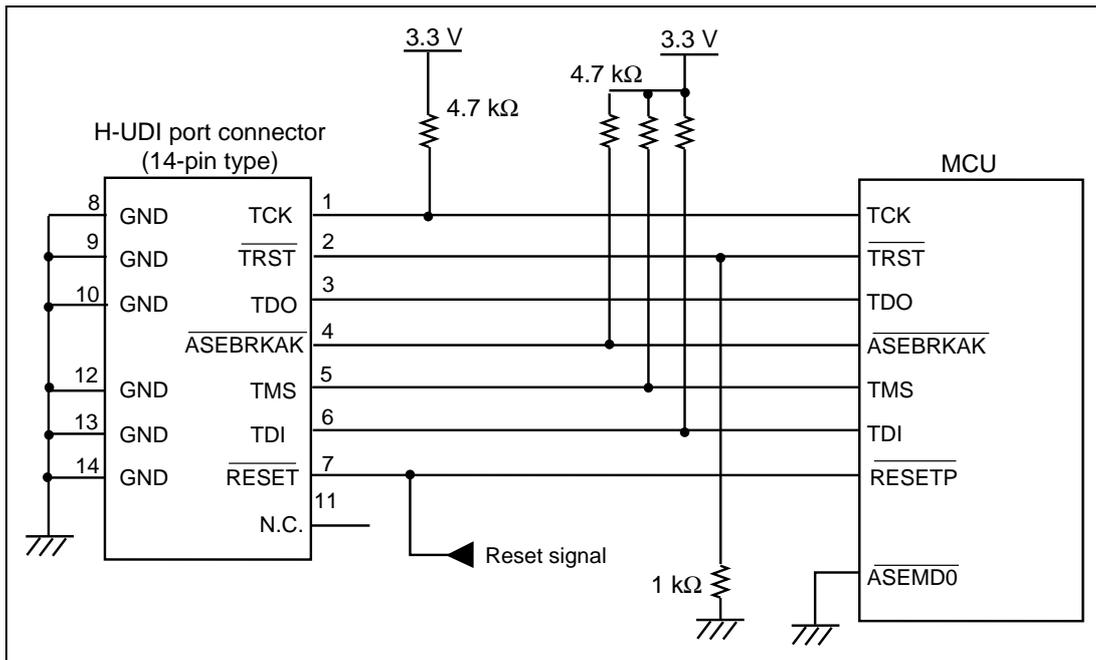

Figure 4.2 Recommended Circuit for Connection between the H-UDI Port Connector and the MCU when Using the Emulator (14-Pin Type)
Figure 4.2 shows a recommended circuit between the H-UDI port connector (14 pins) and the MCU.
- (1) When the emulator is used: $\overline{\text{ASEMD}} = \text{low}$ (ASE mode)
- (2) When the emulator is not used: $\overline{\text{ASEMD}} = \text{high}$ (normal mode)
6. The resistance values shown in figure 4.2 are recommended.